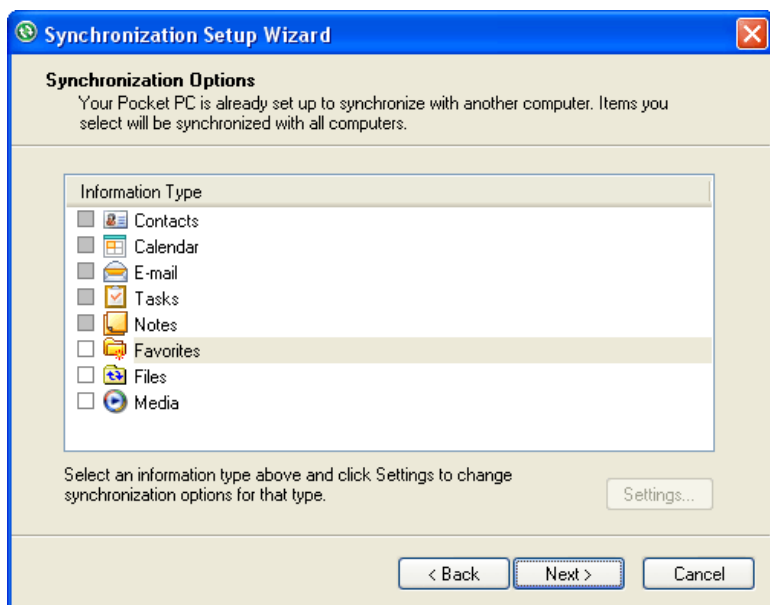

Figure 81. Unmark All Synchronization Options.
- 2) Connect the Detective-EX's DATA port to the computer. If this is the first time the unit has been connected to this computer, Windows XP will display a series of "Found New Hardware" messages indicating a mobile device (e.g., the Detective-EX computer) has been detected. The Synchronization Setup Wizard will start. Follow the wizard prompts for a standard partnership according to step (3).
- 3) On the Synchronization Options screen, ***unmark ALL checkboxes, scrolling down as needed to ensure all items have been deselected*** (Fig. 81). This will prevent the host computer and trans-SPEC from automatically exchanging files.